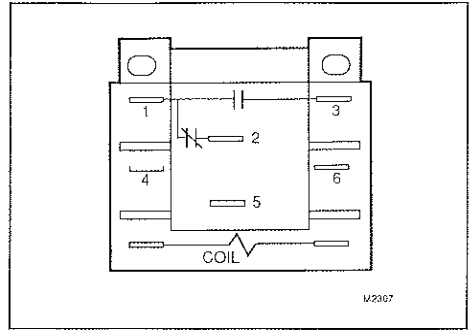

Fig. 5—R8222B switching configurations.
2. Refer to Fig. 5 or 6 for terminal designations and switching configurations.